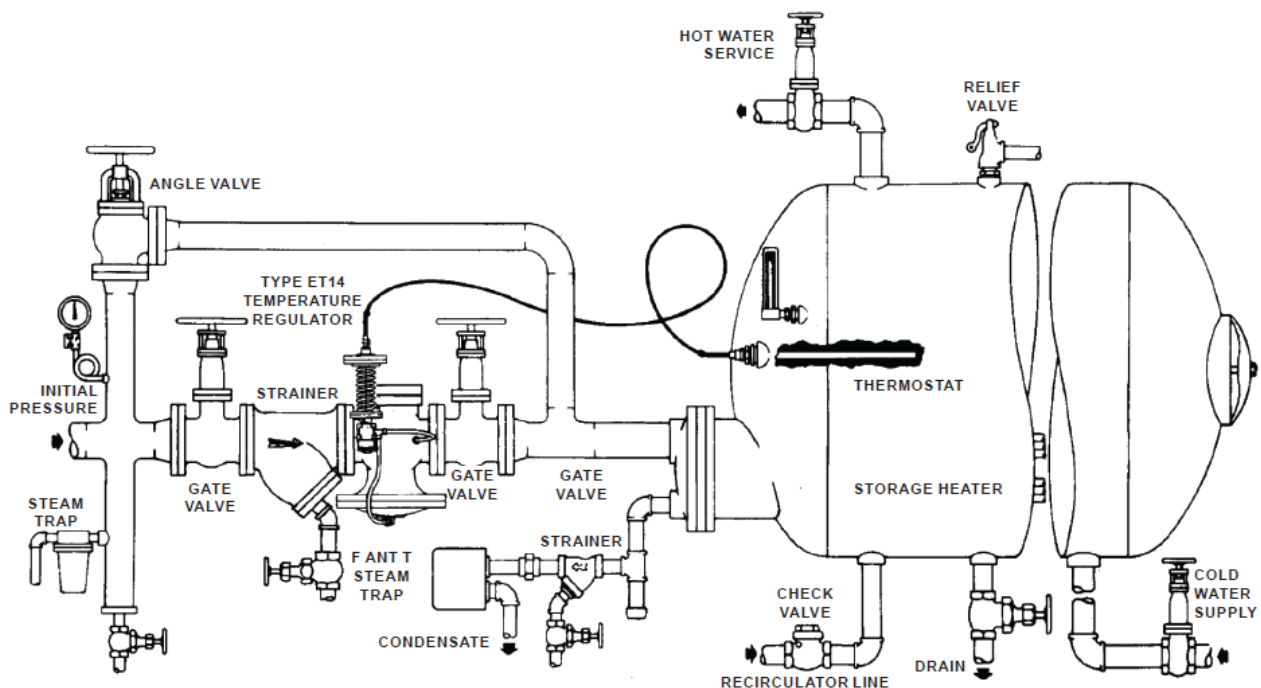

Figure 2. Typical Installation
The regulator is operated by its initial steam pressure. The main valve is normally closed, being held so by initial pressure on the disk and by an internal main spring. The pilot opens when the temperature at the thermostat bulb is lower than the setting of the temperature adjusting spring. Steam flows to the pilot through the connecting nipple and union (see Figure 2). At the No. 8B tee on the pilot outlet, the flow divides. One branch is connected to bleed port No. 4A and the other to restriction elbow No.
Insulation may be applied to the upper portion (globe and flanges) of the main valve. Do not insulate the diaphragm chamber or any part of pilot. See Figure 2.
4. Turn the temperature adjusting wheel (Figure 2) to obtain desired control temperature.
1. Close bypass, open 1/4 in. / 6.35 mm control pipe valve. Turn up the temperature adjusting wheel (Figure 2) until 1/2 in. / 12.7 mm of thread is exposed.